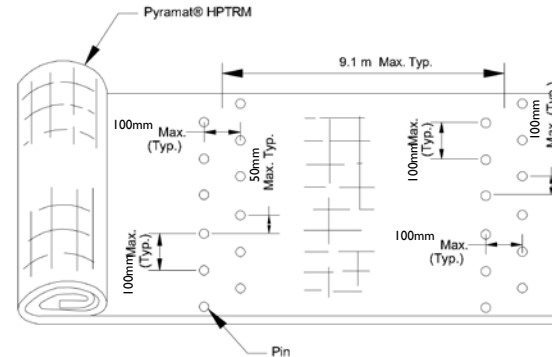

FIGURE 7: SIMULATED CHECK SLOT DETAIL
- For slope heights greater than 13.7m, install simulated check slots per Figure 7. This method included placing two staggered rows of pins on 100mm centers at 9.1m intervals (see Figure 7) or across the midpoint of the slope height for slope heights less than 18.2m.